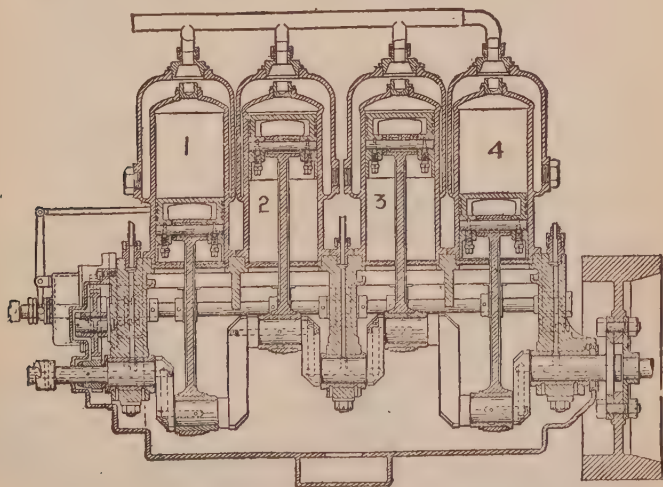

Fig. 121.—A typical four cylinder engine showing position of cranks and working parts, including secondary shafts.
**Ques.** Explain this by referring to the four cylinder engine in fig. 121.